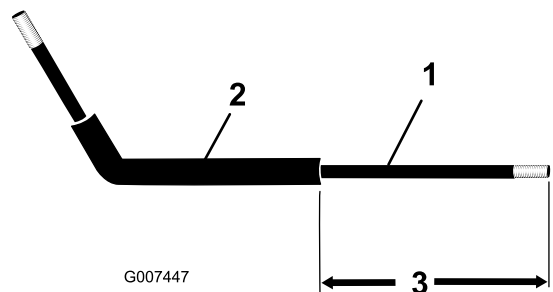

Figure 6
1. Slide the foam hose onto the threaded rod. Position the hose as shown in (Figure 6)